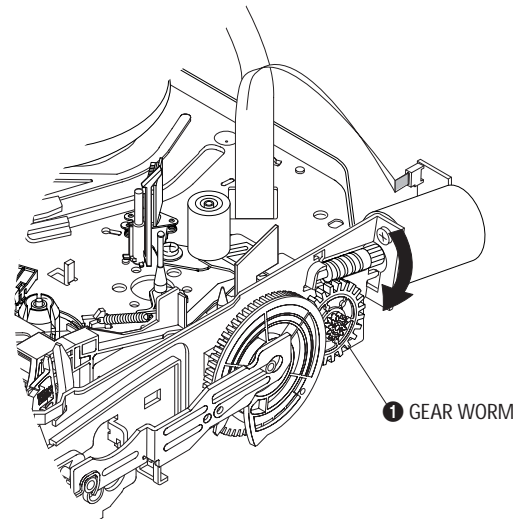

Fig. 5-42
- 3) Rotate Gear Worm ❶ clockwise using screw driver again up to the state of eject mode and then pick out the tape.(Refer to Fig.5-42)